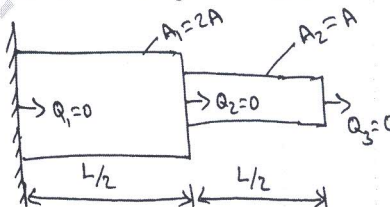

Fig Q10
- 10 Find the natural Frequencies and corresponding mode shapes for given stepped bar with Young's modulus 'E' and density 'rho' as shown in Fig Q10.